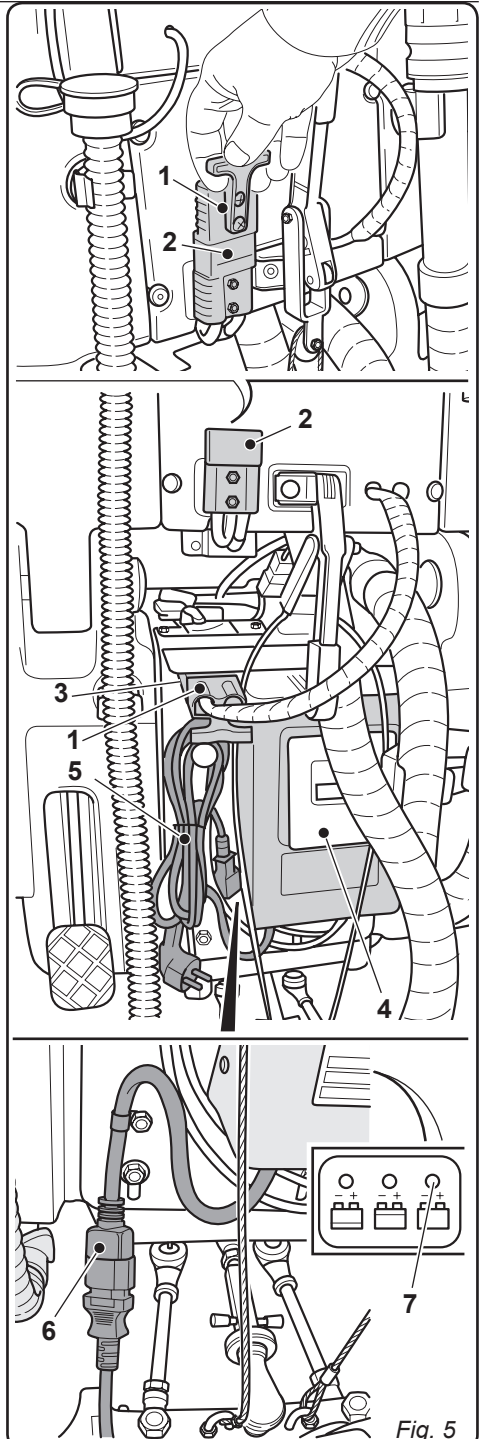

Fig. 5
4.1.a - Charging the battery using the on board battery charger (if present) (Fig. 5)
- Remove the battery plug (1) from the system socket (2).
- Connect the battery plug (1) to the on board battery charger (4) socket (3).
- Extract the cable (5) from its special lodging and connect it to the socket on the machine (6). Connect the other end of the cable to an electrical outlet.